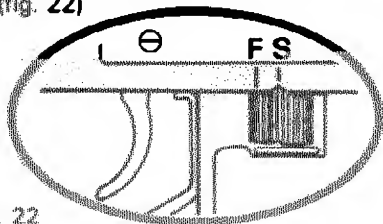

fig. 22
6. Move the fire selector to "S" (Safe). (fig. 22)